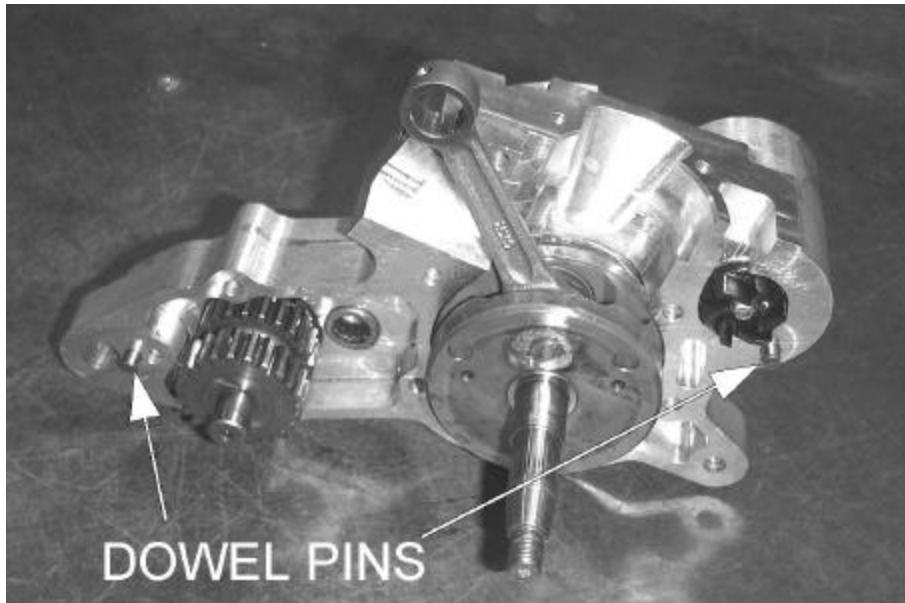

Figure 10
10. Insert dowel pins in the left side case as shown in figure 10.